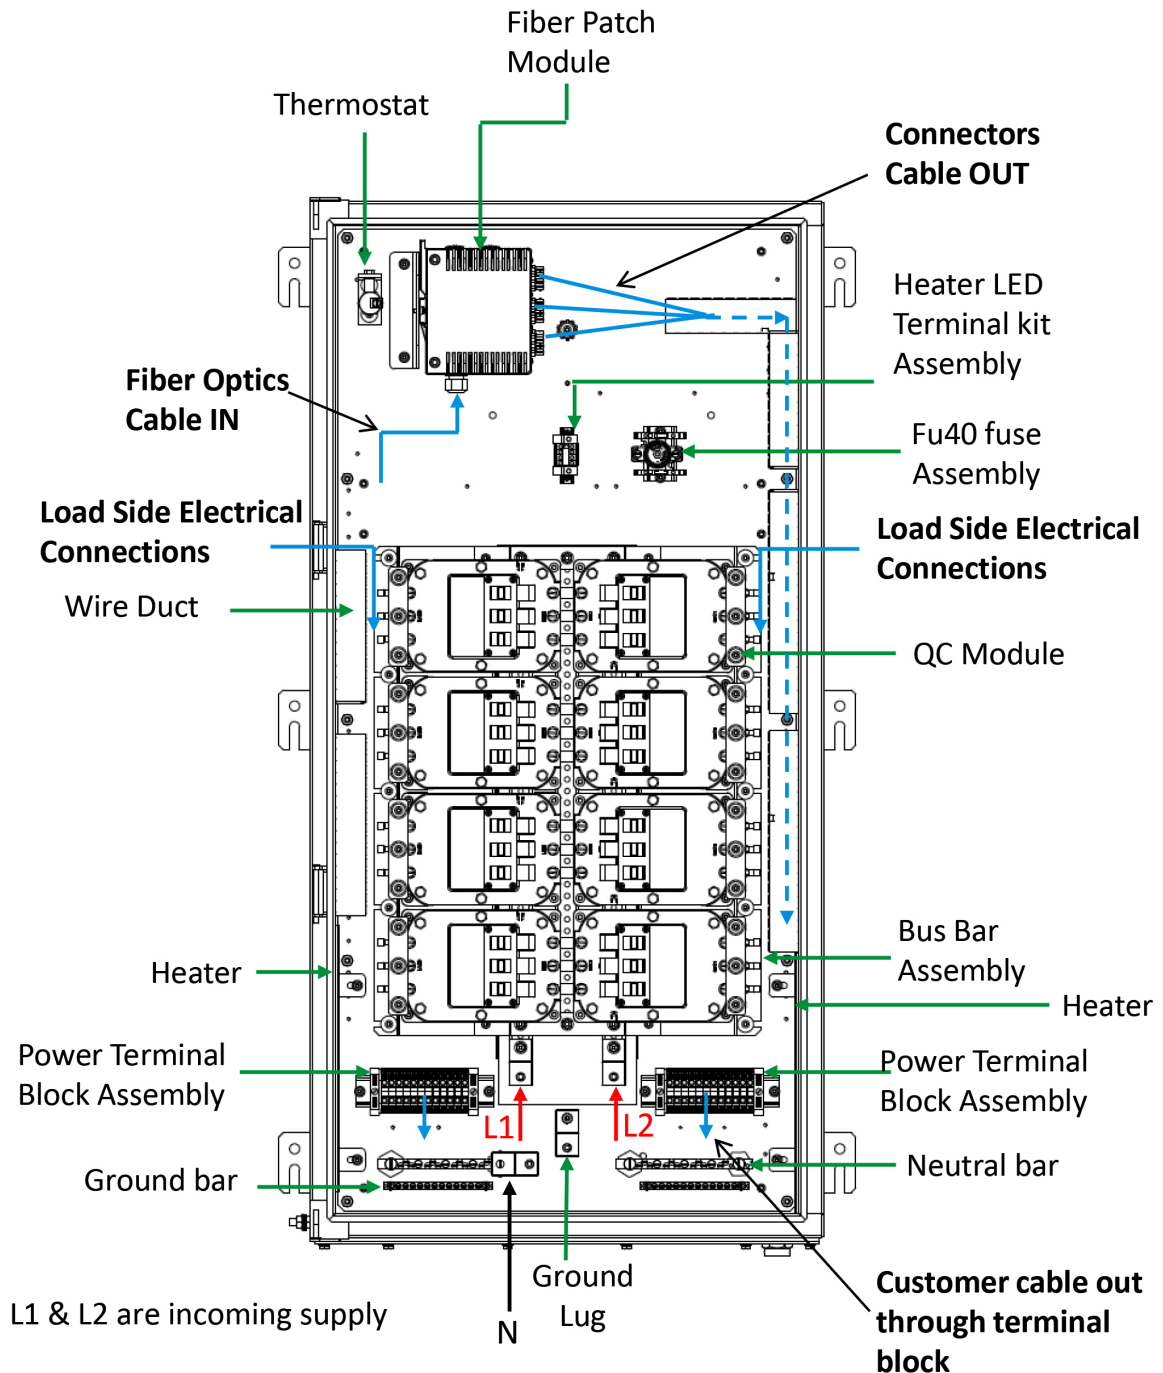

FIGURE 7 - PlexPower Fiber Panel Assembly
- 2) Incoming supply can be wired to line side of QC housing (Figure 7).